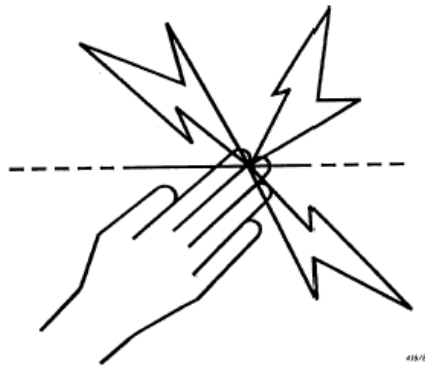

Figure 1 – Warning plate symbol
- a) the symbol of Figure 1, or